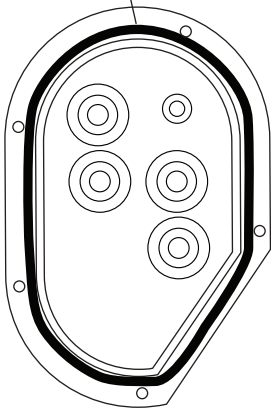

Figure 1
1. Apply a bead of silicone around the mating surface of the kick panel cover (See Figure 1, below).
3. Install the kick panel, routing the hoses and wiring through the opening (See Photo 2, below). For an early-model kickpanel, secure the panel with the trim plate using (3) #8 x 3/4" countersunk washer screws (See Photo 3, below). For a late-model kick panel, do not install the trim plate. Secure the kick panel using (3) #8 x 3/4" countersunk washer screws.
2. Install the straight fitting on the #6 drier/evaporator A/C hose onto the expansion valve on the evaporator unit using a properly lubricated #6 O-ring (See Figure 1, Page 13, and Photo 2, below).
5. Remove the support board (if used), and roll the evaporator into its mounting position. Insert the (2) 1/4-20 x 1 1/2" studs into the upper OEM mounting holes on the firewall (See Photo 5, below).
6. Install the 45° fitting on the #10 compressor/evaporator A/C hose onto the #10 fitting on the evaporator using a properly lubricated #10 O-ring (See Figure 1, Page 12, and Photo 6, below). **NOTE: After installing the #10 compressor/evaporator A/C hose, wrap all exposed metal with the supplied press tape (See Photo 7, below).**